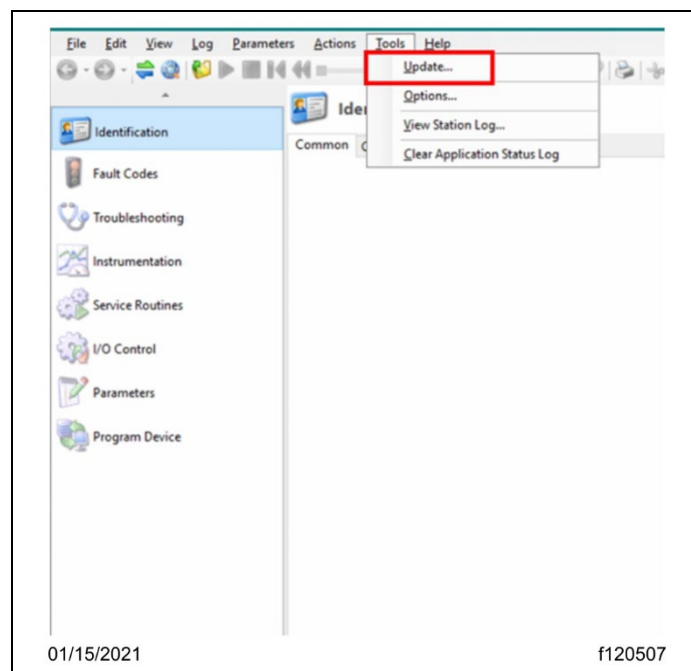

Fig. 13, Updating DiagnosticLink to the Latest Version
- 7.3. Ensure that the DiagnosticLink is updated to the latest version (8.15SP1 at time of publication) or newer. To update the DiagnosticLink, select 'Tools' from the top menu and then select 'Update' from the dropdown menu. See Fig. 13.